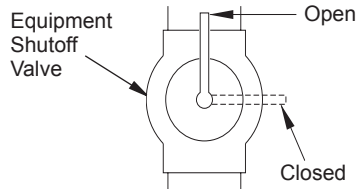

Figure 25 - Equipment Shutoff Valve
1. Close equipment shutoff valve (see Figure 25).
1. Open equipment shutoff valve (see Figure 25, page 18).